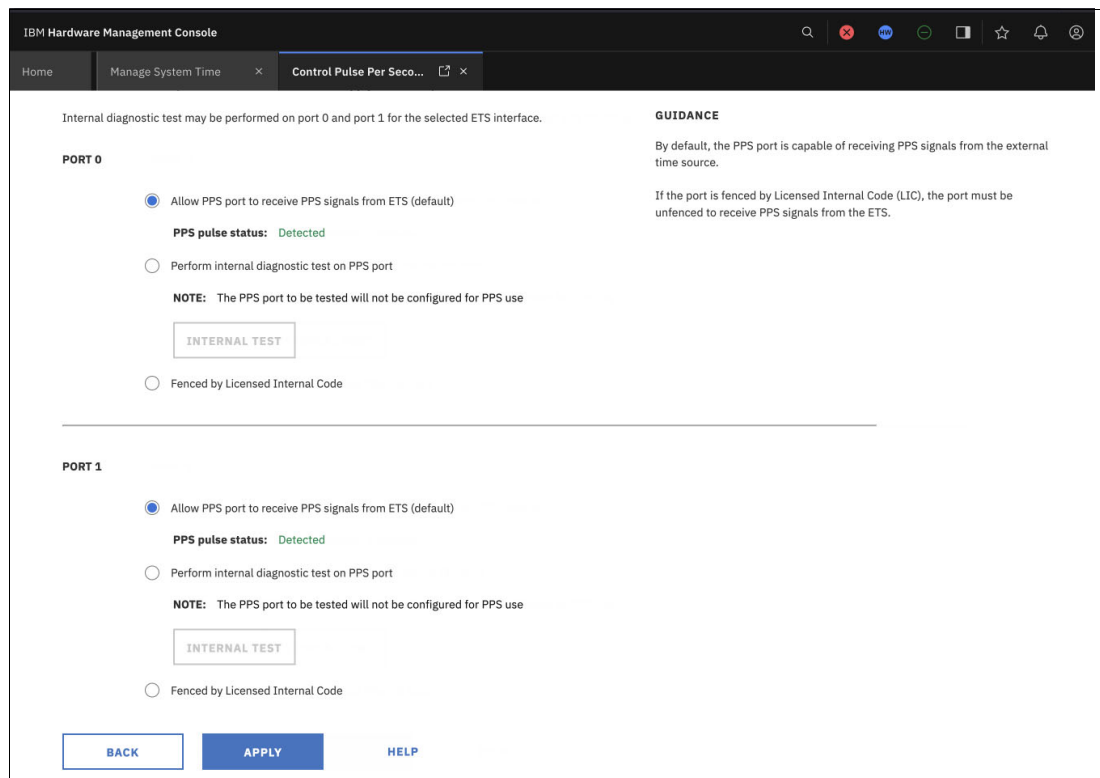

Figure 4-67 PPS cables connected and signal detected
10. Verify that cable connectivity and the PPS signal from the time source appliance are functional by verifying that the PPS pulse status is Detected (Figure 4-67).